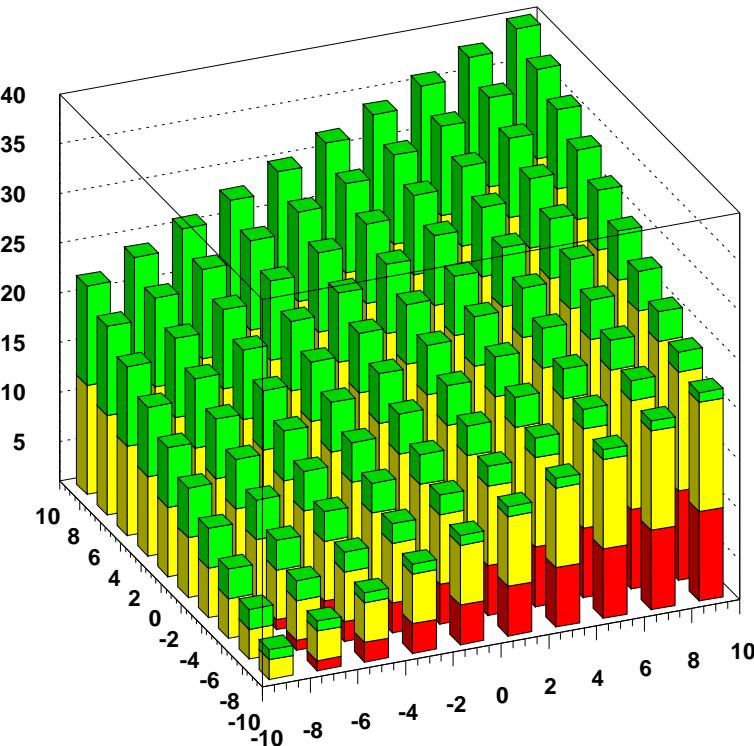

Figure 4.27: Example of stacked lego plots
**Example of stacked lego plots drawing (see result on figure 4.27)**